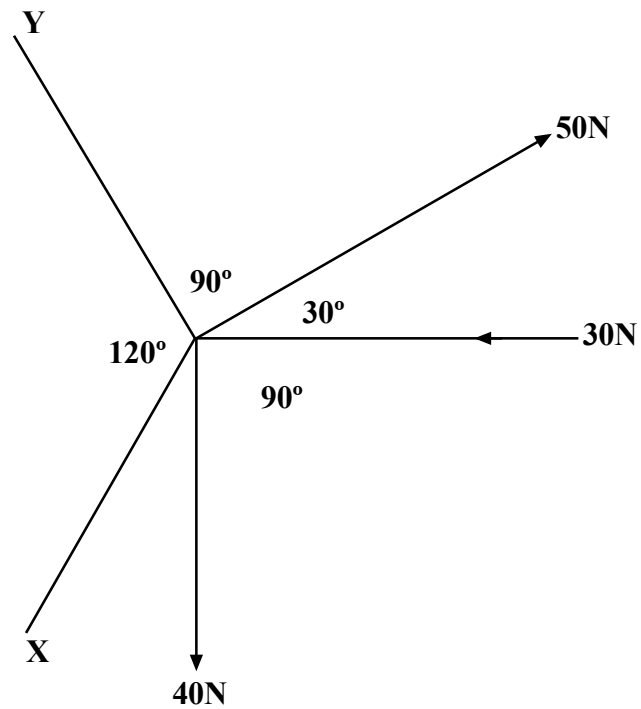

Figure 2
- 2 **Fig 2** shows a free body diagram for a system of concurrent co-planar forces which are in equilibrium. Determine graphically the magnitude and direction of the unknown forces marked **x** and **y**. [9]